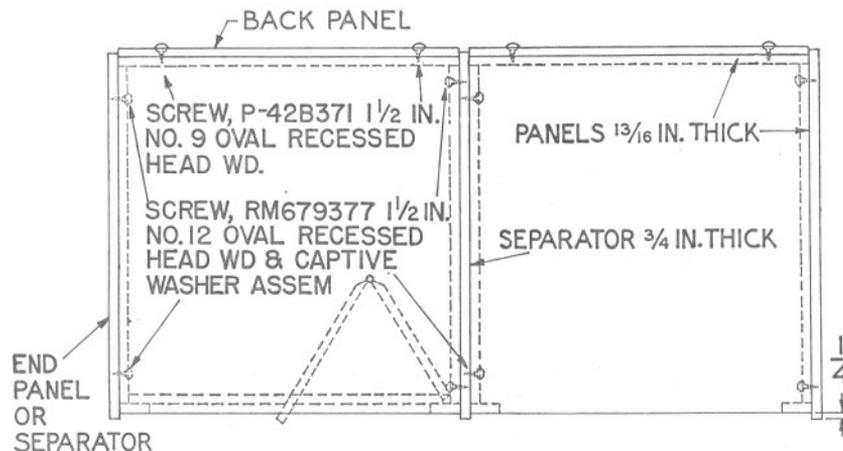

Fig. 1 — Typical Layout
3.02 Screw holes for the assembly are aligned to facilitate assembly in the field. When assembled, the sides of the booth unit shall make contact with the separators or panels along their entire length. Assemble booths in accordance with the layout as shown in Fig. 1.